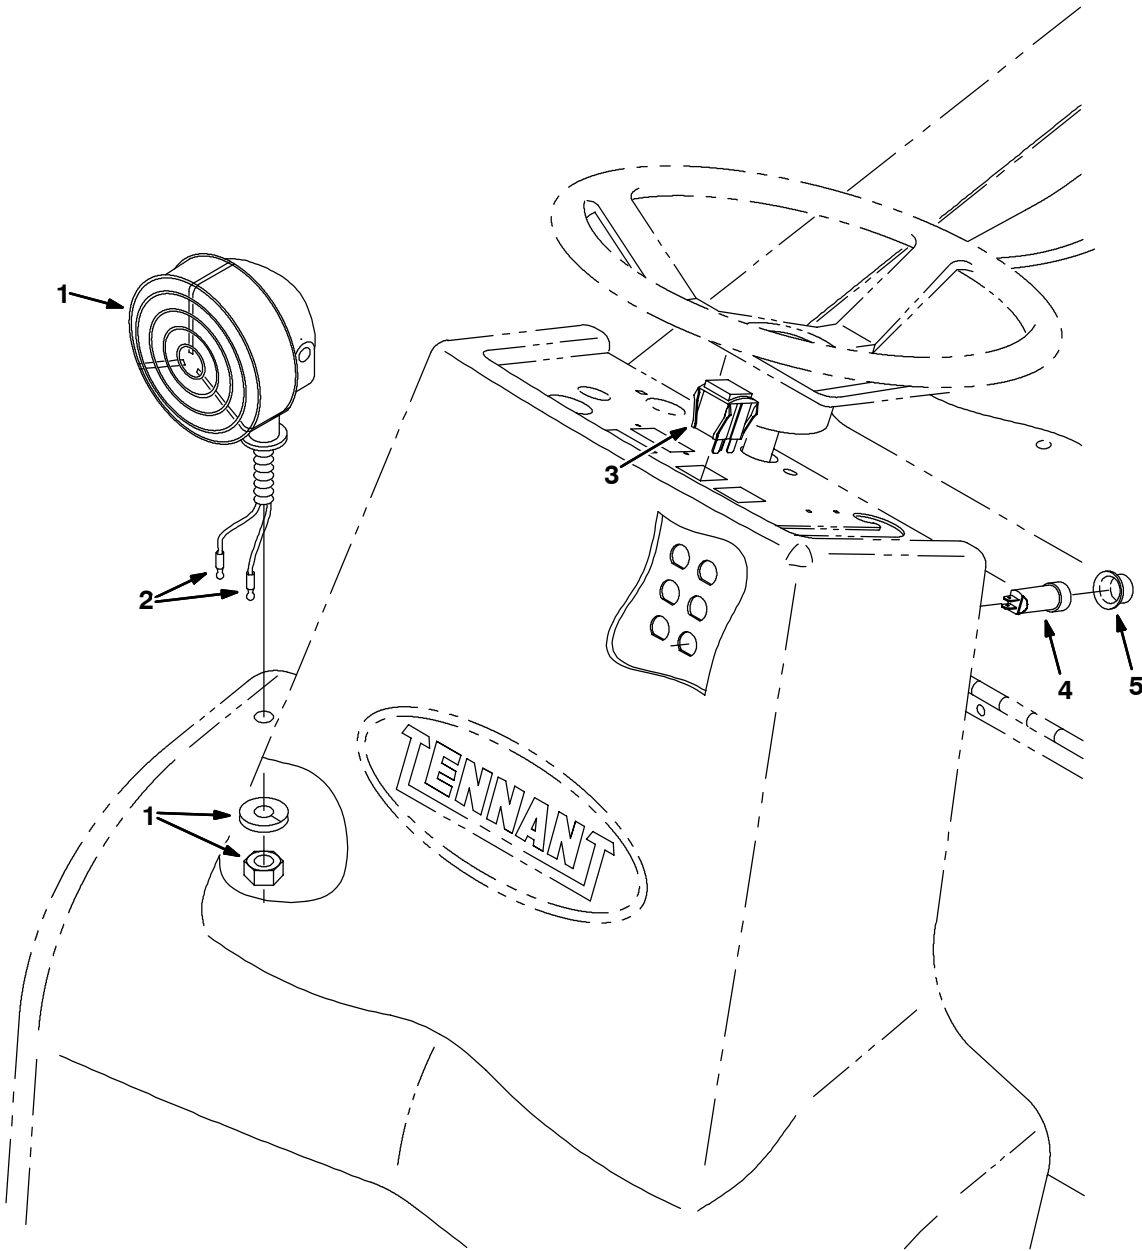

FIG. 3 - WORK LIGHT INSTALLATION
4. Assemble the headlight (1). Strip the wire ends down 6.5 mm (1/4 in) and cap the wires off with the plugs (2). (Refer to FIG. 3)